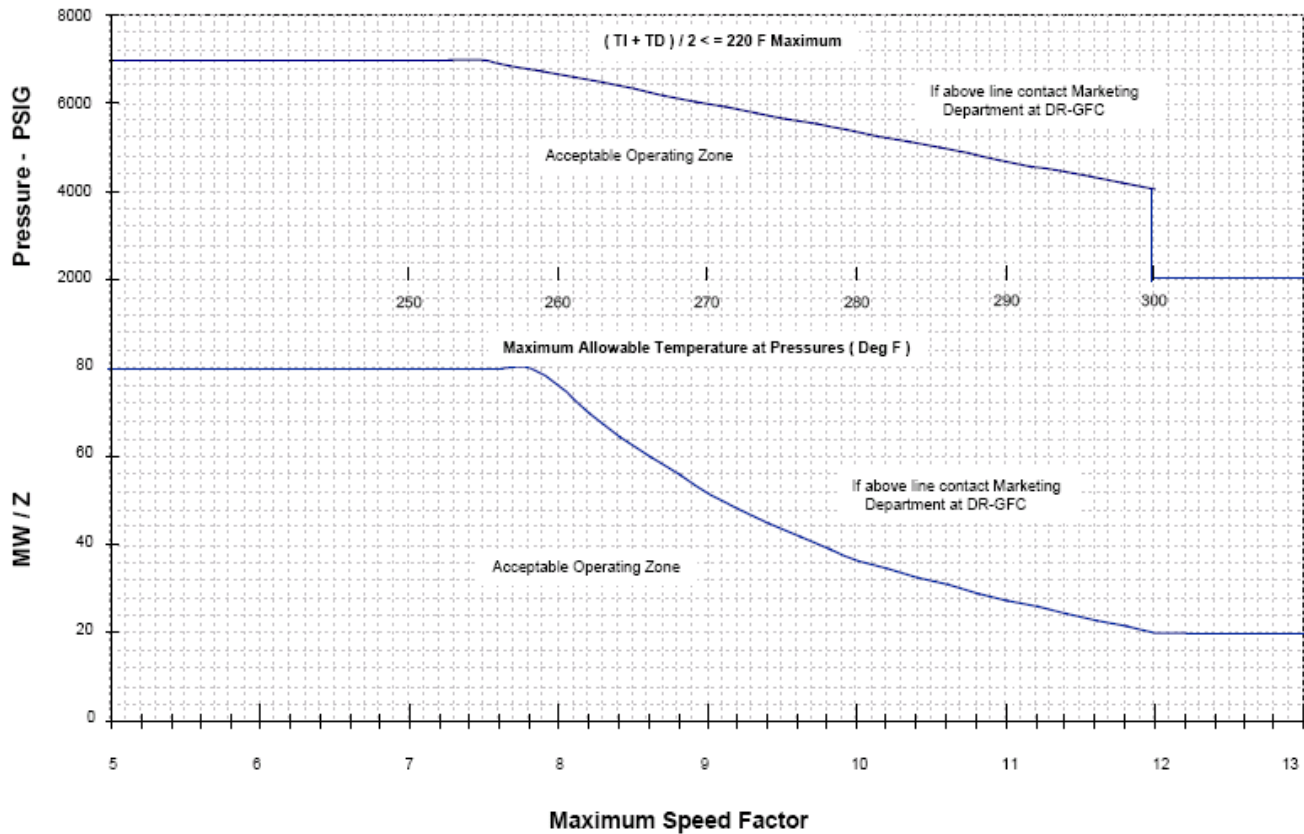

Figure 1
- The recommended maximum allowable RPM of compressors operating at high discharge pressure and / or heavy mole weight gases can be found on the following curves. See Figures 1 & 2.
2. Divide the Molecular Weight (MW) by the lowest encountered compressibility (Z) to determine MW / Z.
3. Find the "Maximum Speed Factor" limitation from Figure 1 based on both the Pressure (top curve) and MW / Z (bottom curve), and use whichever is lower.